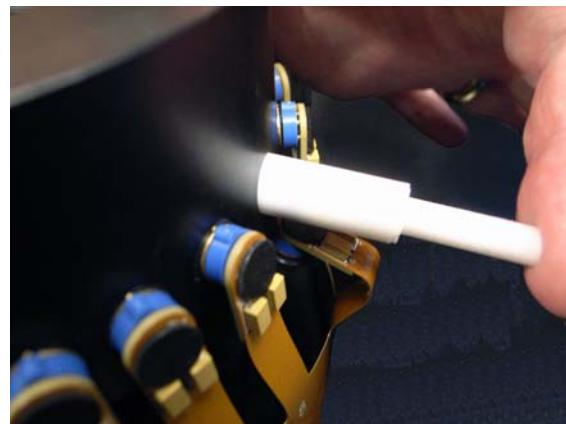

Figure E-5: Installing the Interference filter
6. Insert the plunger tool into the read head photodiode hole and push the plunger to install the O-ring and filter (see Figure E-5).